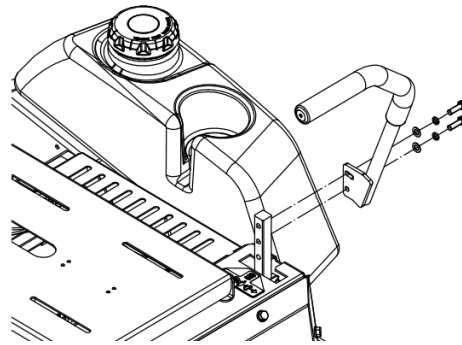

Fig. 5
2. Place the lever on the outside of the control arm shaft and secure with bolts and washers (Refer to Fig. 5),tighten until snug.